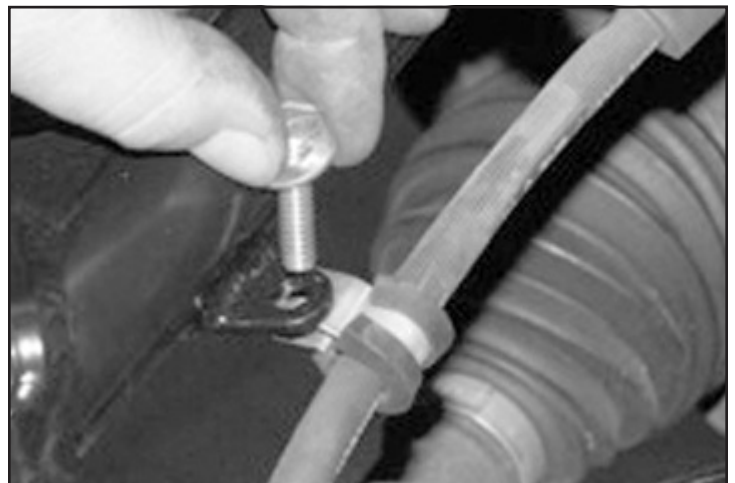

FIGURE 9
16. Attach the wheel speed sensor wire to the small tab on the control arm using the clamp, 1/4"-20 x 1" bolts, nuts and washers. **SEE FIGURE 9**